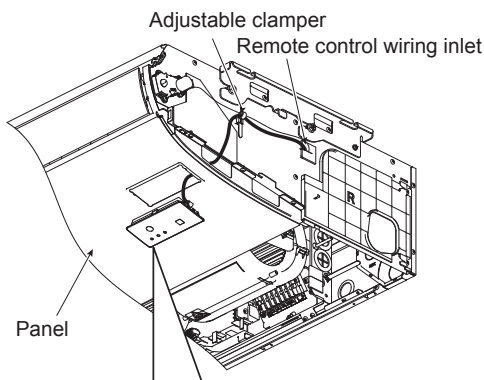
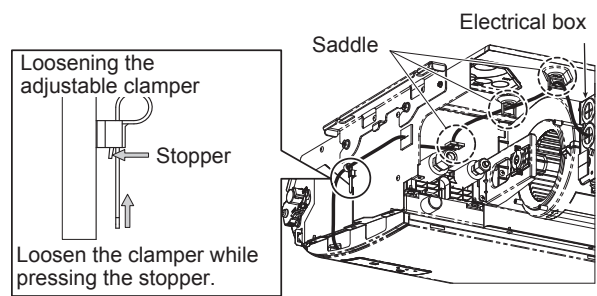

Fig. 8-3
Fig. 8-4
- (3) Route the remote control wiring through the panel, and mount the receiver into the panel holes. (Fig. 8-3)
- (4) Route the remote control wiring through the adjustable clamber, and draw in the wire from the remote control wiring inlet to the inside of the indoor unit. (Fig. 8-3) (See Fig. 8-4 for how to loosen the adjustable clamber.)
- (5) Route the remote control wiring through the three saddles, and draw the wire into the electrical box. (Fig. 8-4)